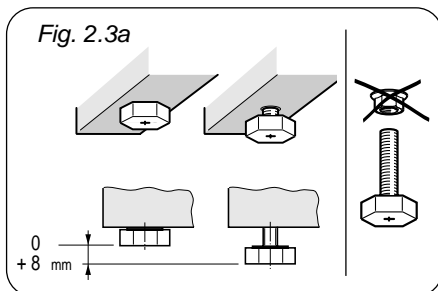

Fig. 2.3a
- Screw the 4 levelling feet to the cooker: it is important to observe the prescriptions of figures 2.3a - 2.3b.